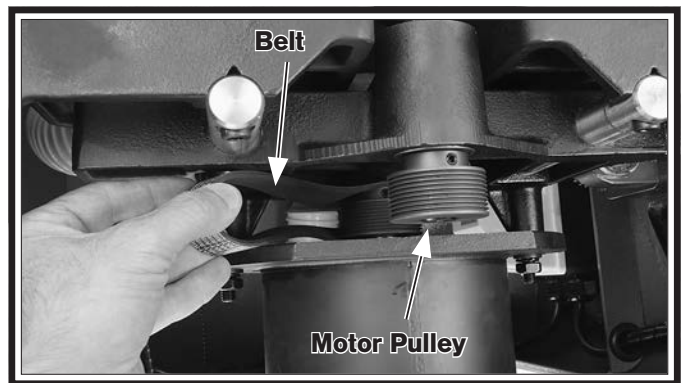

Figure 148. Removing belt (table removed for clarity).
7. Roll belt off of upper and lower pulleys, as shown in **Figure 148**. Be careful not to pinch your fingers.